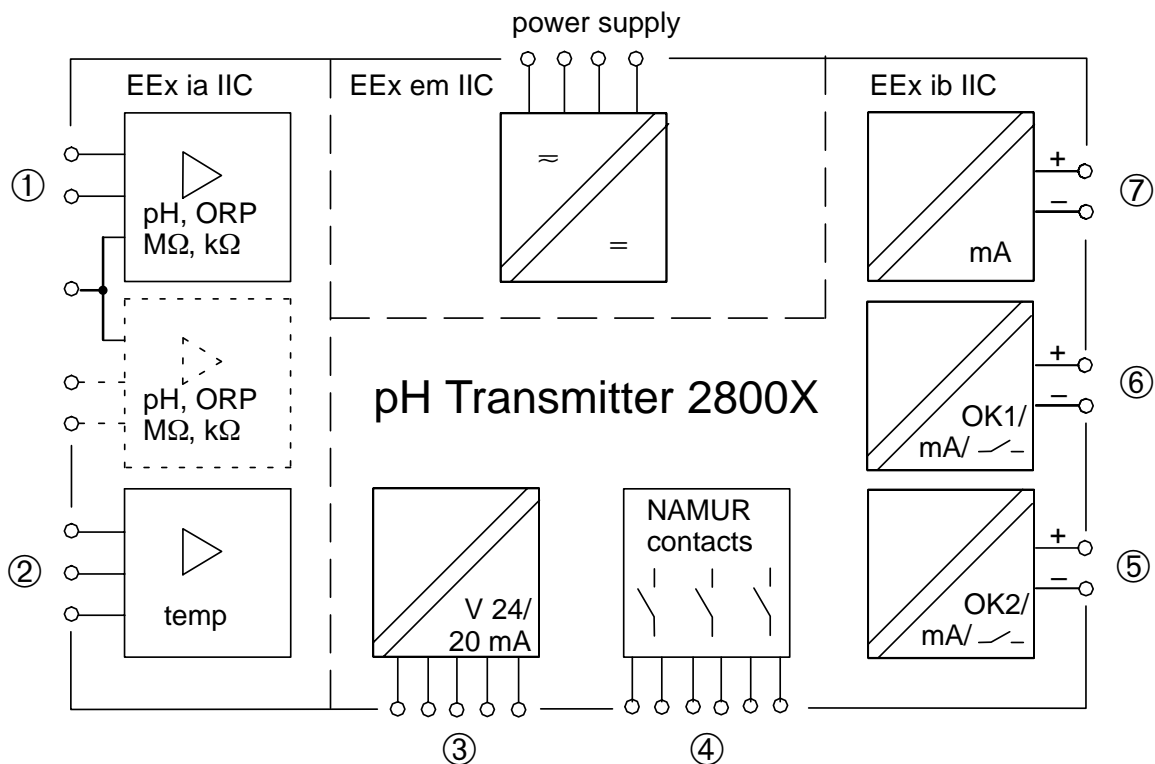

Fig. 2-1 System Functions pH Transmitter 2800X
Fig. 2-1 shows the versatile system functions. In addition to inputs for measuring and reference electrode ① and temperature probe ② you can connect an equipotential bonding electrode that at the same time serves as auxiliary electrode for electrode monitoring.